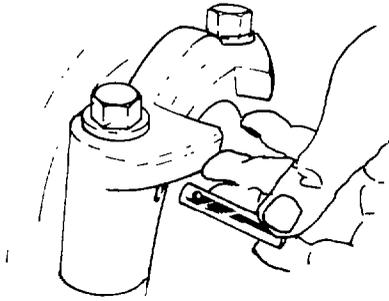

Fig. 338 — Installing Locking Pin
- s. Remove the differential bearing adjustment fixture, install the adjusting nut lock pin, and secure with a split (cotter) pin (see figs. 338 and 339).